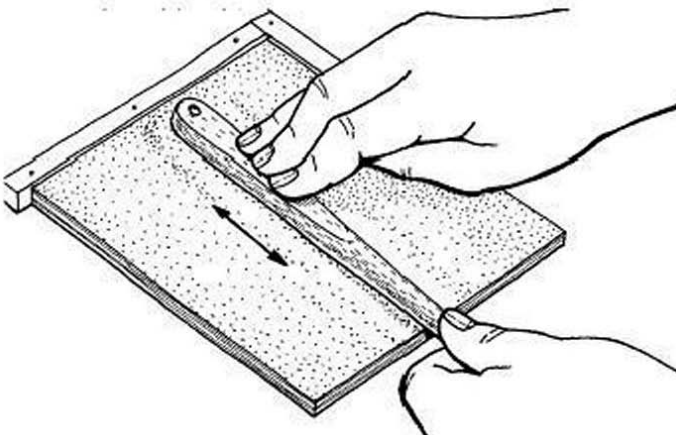

FIGURE 16-11
- 2** The best way forward is to rub the faces down on a lapping board—meaning a sheet of abrasive paper that has been mounted grit-face-up on a sheet of plywood (Figure 16-11). Continue until the distance across the resultant flats is equal to the diameter of the rod at the thin end.